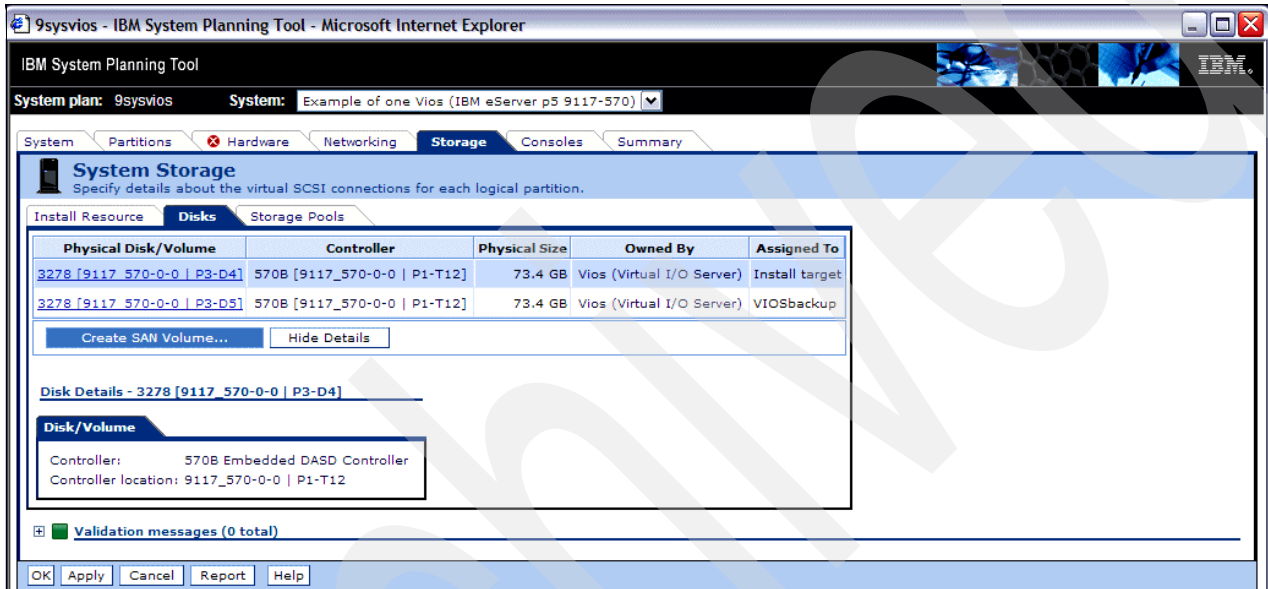

Figure 4-17 Create SAN volume
- Click the **Disks** tab to get a window showing any disks assigned to this partition. In our example we include creating a SAN volume. Therefore, on the initial Disks window (Figure 4-17) click **Create SAN Volume**.
You can create one or more SAN volumes owned by this Virtual I/O Server partition. Note that to create a SAN volume you must have previously assigned a Fibre Channel Adapter to this partition. SAN volumes are used to create a storage volume for each of the clients. Figure 4-17 shows the window to create the SAN volume.